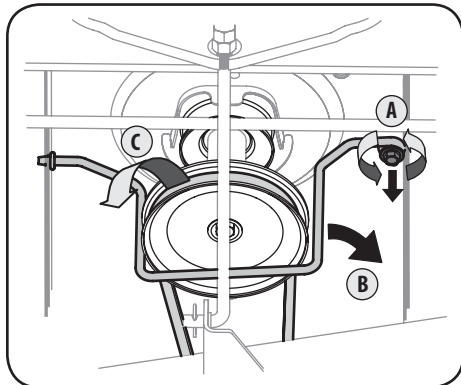

Figure 4-8
3. Remove the belt-keeper rod, from around the tractor's engine pulley, by removing the self-tapping screw (A) that secures it. See Figure 4-8.
4. Remove the belt (C) from around the tractor's engine pulley and idler pulley(s). See Figure 4-8.